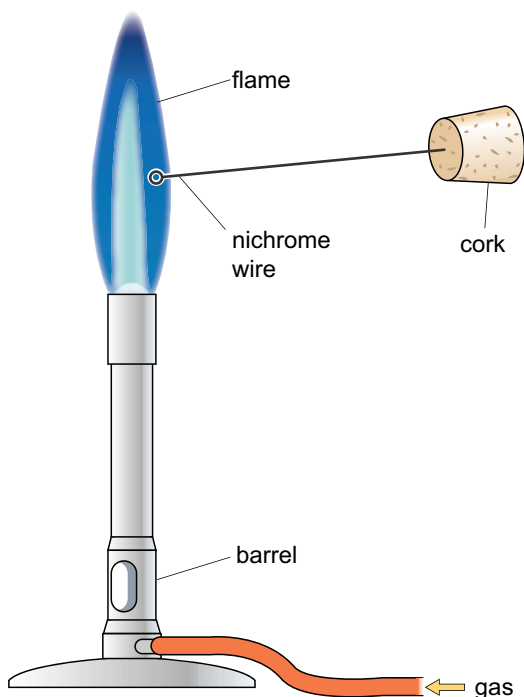

Figure 10 Components of Bunsen burner and the position of nichrome wire for a flame test.
3. Place the loop into the side of the blue flame, as shown in Figure 10. If the wire is clean it should make no difference to the colour of the flame. If the colour of the flame does change there is an impurity on the wire. Dip it again in the acid and return it to the side of the flame.